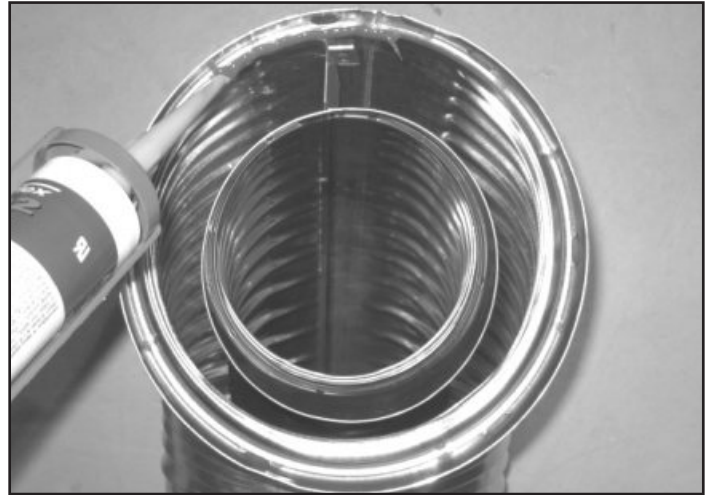

Figure 7.1 High Temperature Silicone Sealant
- Apply a bead of silicone sealant (300° F minimum continuous exposure rating) inside the female outer pipe joint prior to joining sections. See Figure 7.1.